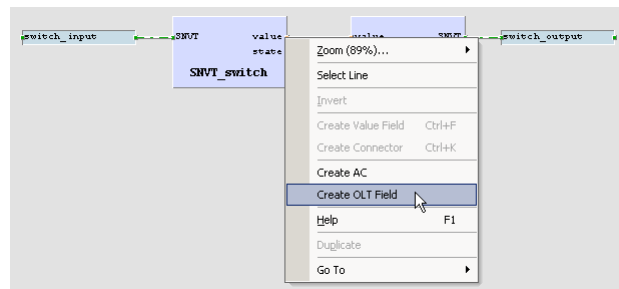

Figure 62: Create online test fields
12. For later debugging, it is good practice to add online test fields to the drawing, to display the current value of the signals during online test. To do this, right-click on the value output of the left function block and select **Create OLT Field** from the context menu, as shown in Figure 62.